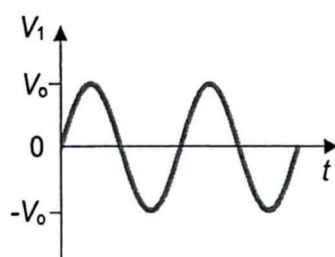

Fig. 2a
- D2.** A sinusoidal potential V_1 shown in Fig. 2a is applied across a resistor R which produces heat at a mean rate P .